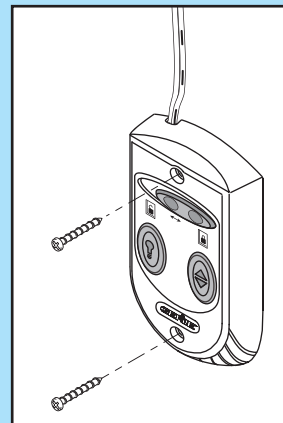

FIG. 3-4 Mounting Wall Console.
- Fasten Wall Console to wall with 2 screws (provided) (**Fig. 3-4**).